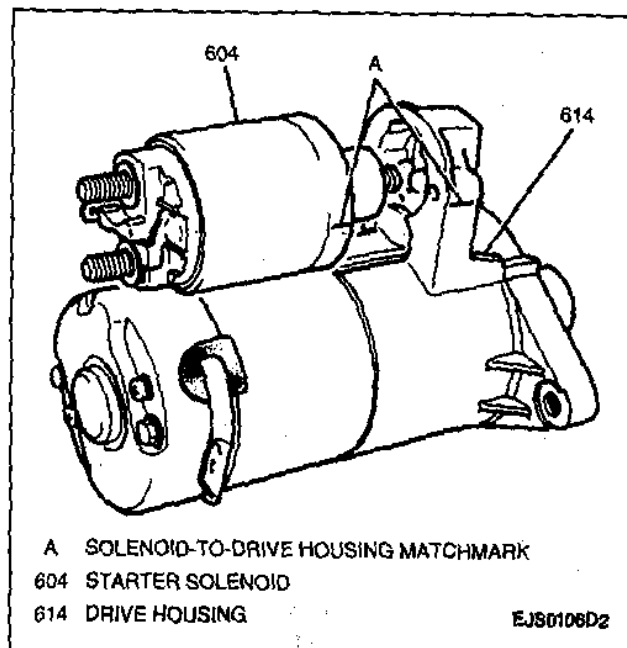

Figure 10—Installing Solenoid
2. Solenoid to drive housing aligning solenoid-to-drive housing matchmarks; secure with two screws (Figure 10).